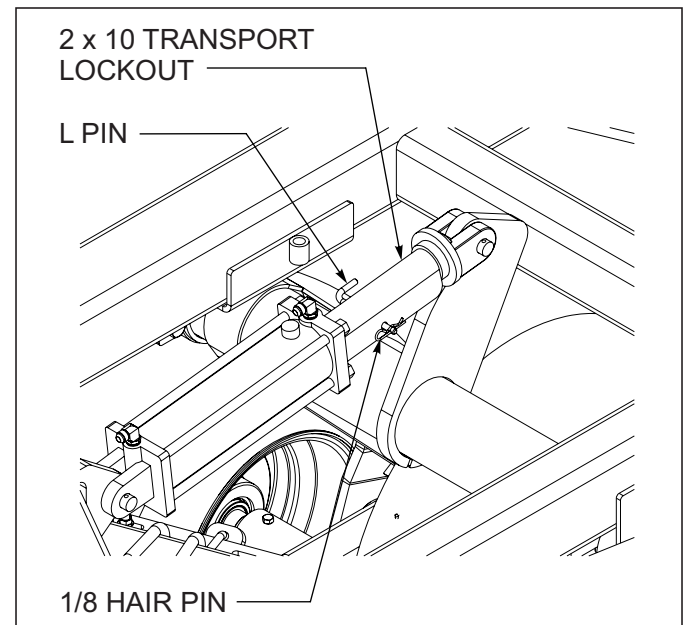

Figure 4-17: Installed Transport Locks
10. Install transport locks on both lift and fold systems. Do not depend solely on implement hydraulics for transport. (See Figure 4-17.)